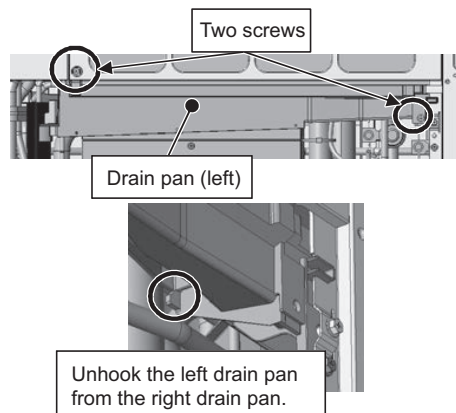

Figure 4
- (4) Remove the top attachment connecting the main control box and the inverter control box by unscrewing the two screws. (See Figure 4.)
- (5) Remove the bottom attachment connecting the main control box and the inverter control box by unscrewing the two screws. (See Figure 4.)
- (7) Remove the two cable straps holding the weak electrical wiring and the two cable straps holding the strong electrical wiring from the control box. (See Figure 4.)
- (3) Remove the left drain pan by unscrewing the two screws. (See Figure 4.)